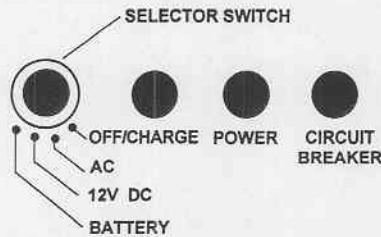

Figure 3-2. Operating mode selector switch.
a. Operating mode selector switch (fig 3-2).